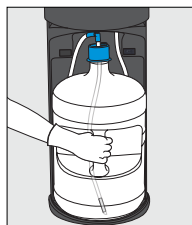
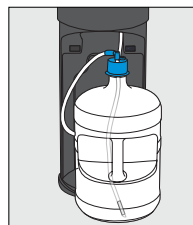

Figure 29
Figure 30
2. Slide empty bottle out of cabinet (Figure 29 and Figure 30)